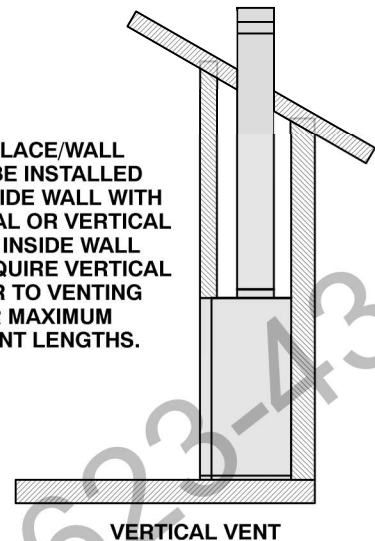

FIGURE 2
- 5 – See figure 2 for acceptable appliance applications.